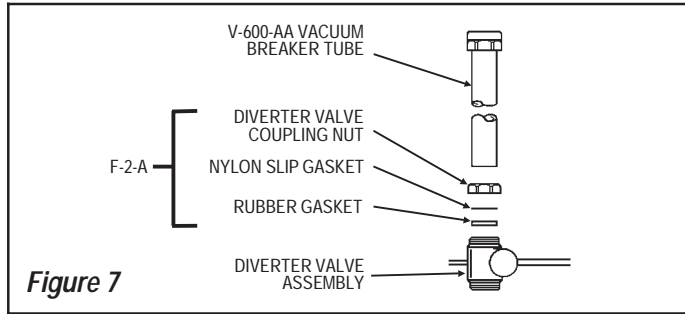

Figure 7
Step 7 — Install Vacuum Breaker Flush Connection (Figure 7)